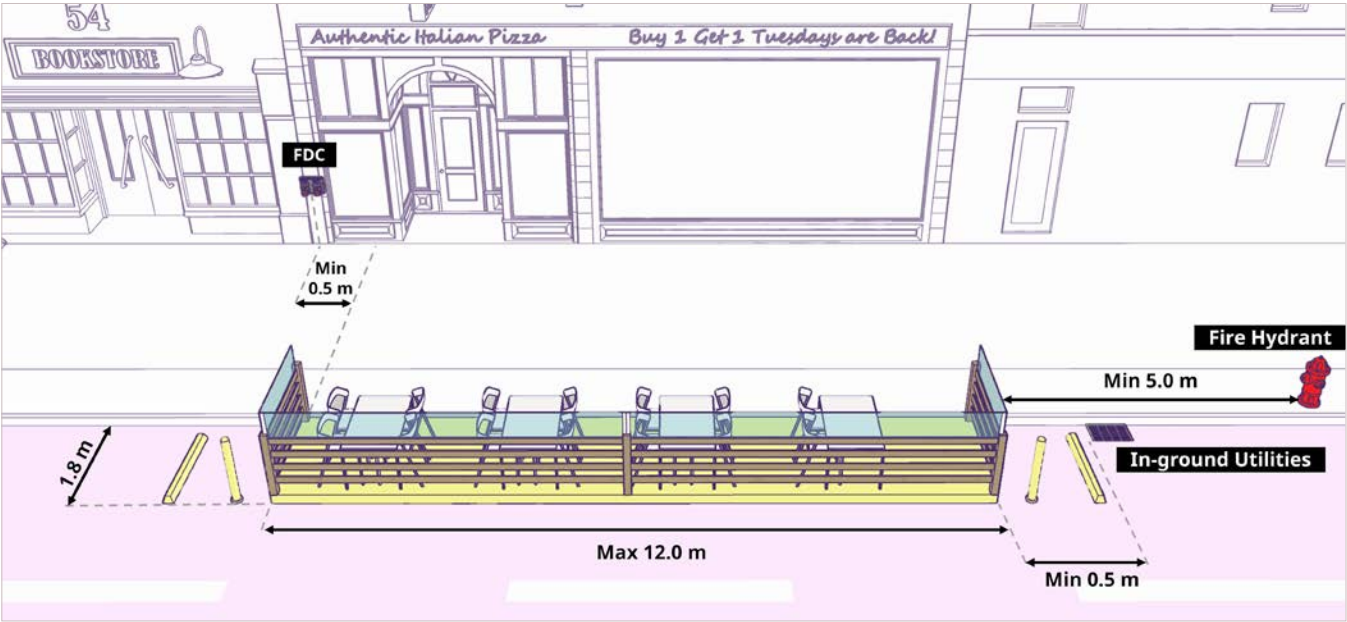

Figure 3: Curbside patio in the public realm
- a. A minimum **5.0 m** clearance from fire hydrants (see *Figure 3*).
- b. A minimum **0.5 m** clearance on both sides of the FDC, measured from the centre point of the FDC (see *Figure 3*).
- c. A minimum **0.5 m** clearance from in-ground utilities, such as maintenance holes, catch basins, water valves, etc (see *Figure 3*).